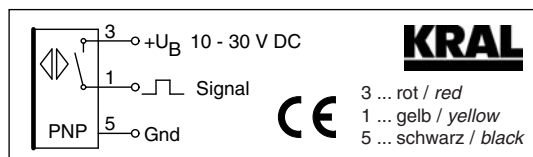

Fig. 9 Terminal diagram BEG 44
7. Screw tight the threaded cover **624.3**. Connect the pick up. Observe the terminal diagram, see Fig. 9, page 30.